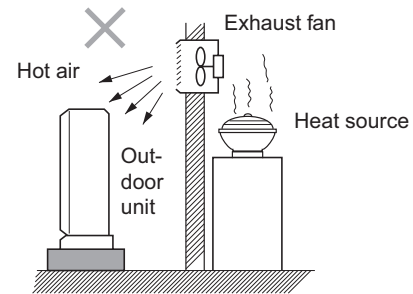

Fig. 2-6
- heat sources, exhaust fans, etc.(Fig.2-6)